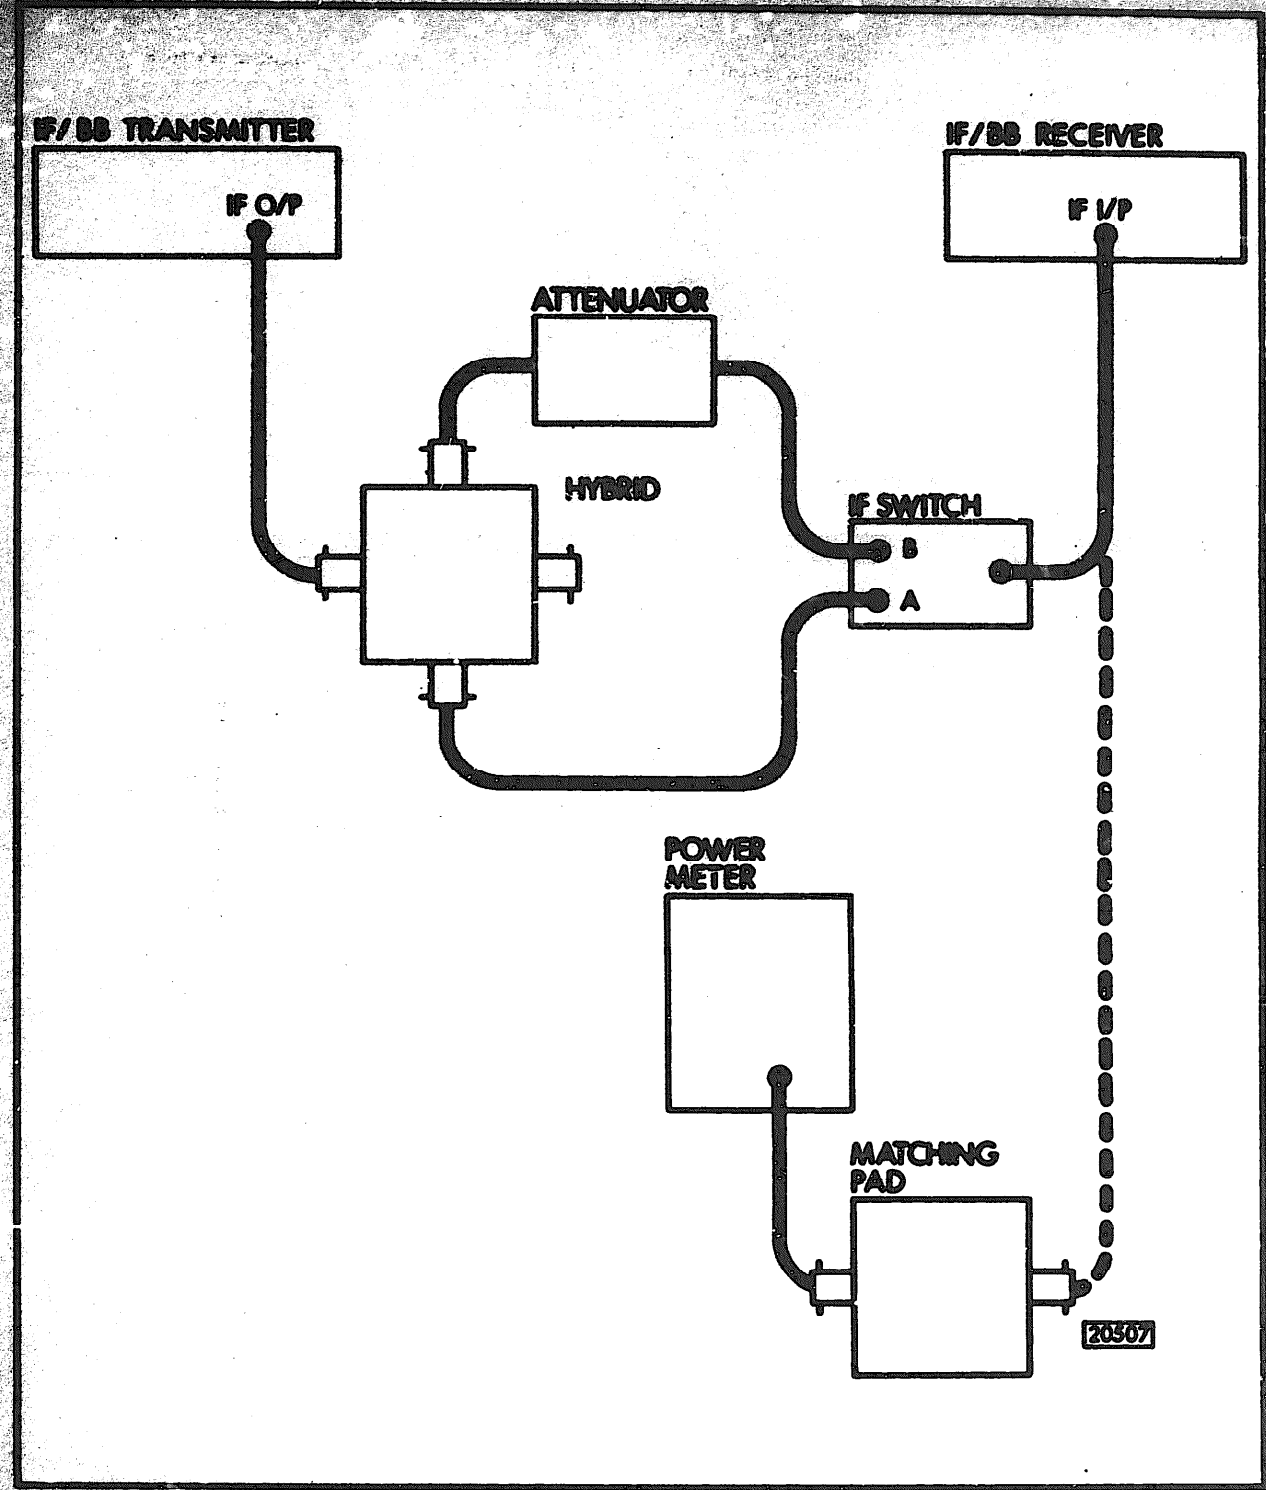

Figure 4-12 IF Display Calibration Check
2. Connect the equipment as in Figure 4-12 with the IF Switch output connected to the Receiver IF INPUT (D).